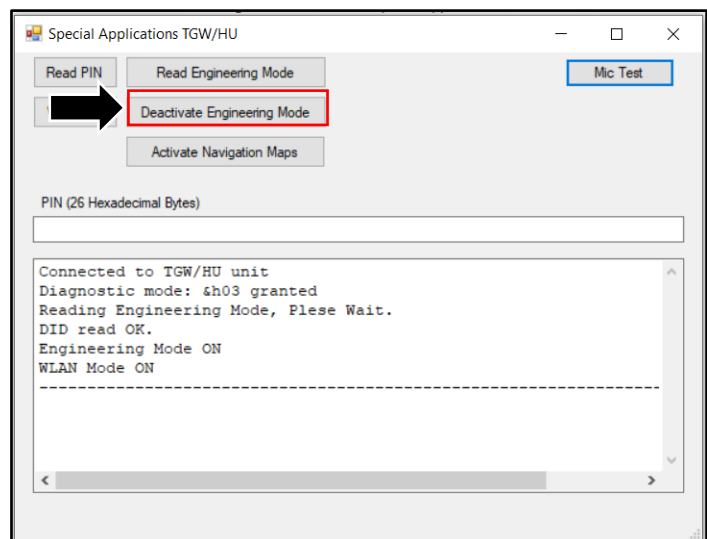

Figure 16
28. Select 'Deactivate Engineering Mode' (refer to Figure 16).